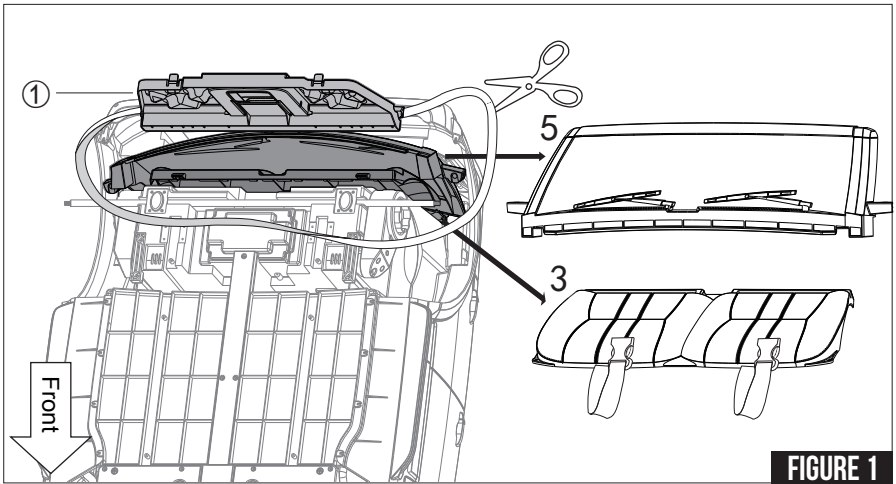

FIGURE 1
- Place the car upside down like shown in the Figure 1 before assembly. Make sure the car is placed on top of a soft cloth or surface to avoid any scratches to the car surface. Use a pair of scissors and cut apart the belt tied down onto the car. Remove Rear Bracket, Seat (3), and Windshield (5) from the car for assembly.
- Place Rear Bracket back onto the car as shown in Picture 2. Use 4 pcs ST4x12 screws (15) and screw down at the indicated holes with a screwdriver.